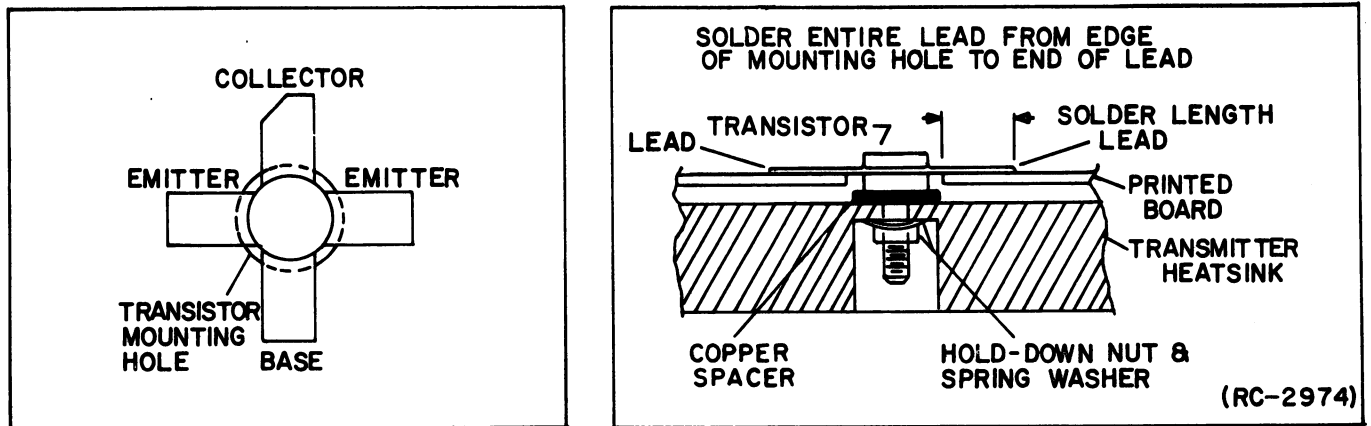
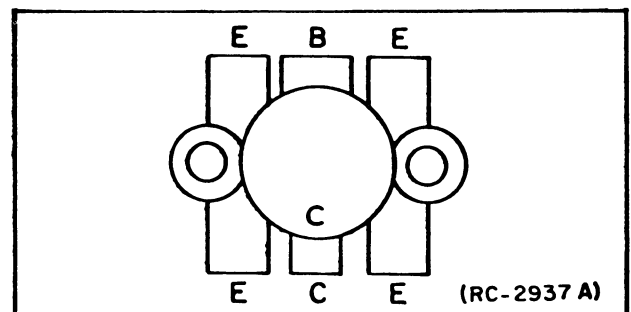

Figure 5 - Q202 Lead Identification and Mounting
Figure 6 - Q203 Lead Identification
1. Trim the new transistor leads (if required) to the lead length of the removed transistor. Cut the collector lead of Q202 at a 45° angle for future identification (See Figure 5). The collector lead of Q203 is identified by the smaller center lead (See Figure 6). The letter "C" on top of each transistor also identifies the collector.
2. Maintain the radio at 26.5°C ( $\pm 10^\circ\text{C}$ ) and offset the oscillator, as a function of actual temperature, by the amount shown in Figure 5.
- B. To hold setting error to  $\pm 0.35$  PPM (which is considered reasonable for 2 PPM ICOMs): Maintain unit at 26.5°C ( $\pm 5^\circ\text{C}$ ) and offset the oscillator as a function of actual temperature, by the amount shown in Figure 5.